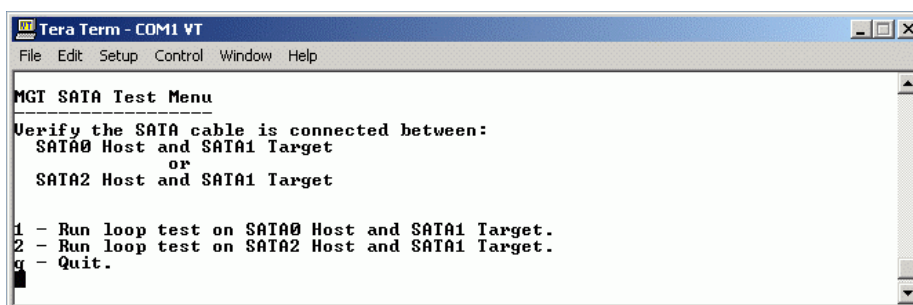

Figure D-6: Selecting the Specific SATA Port to Test
7. After entering “1” from the “Main Menu” in the terminal window, select which of the two serial ATA pairs you would like to run the test on. See Figure D-6.